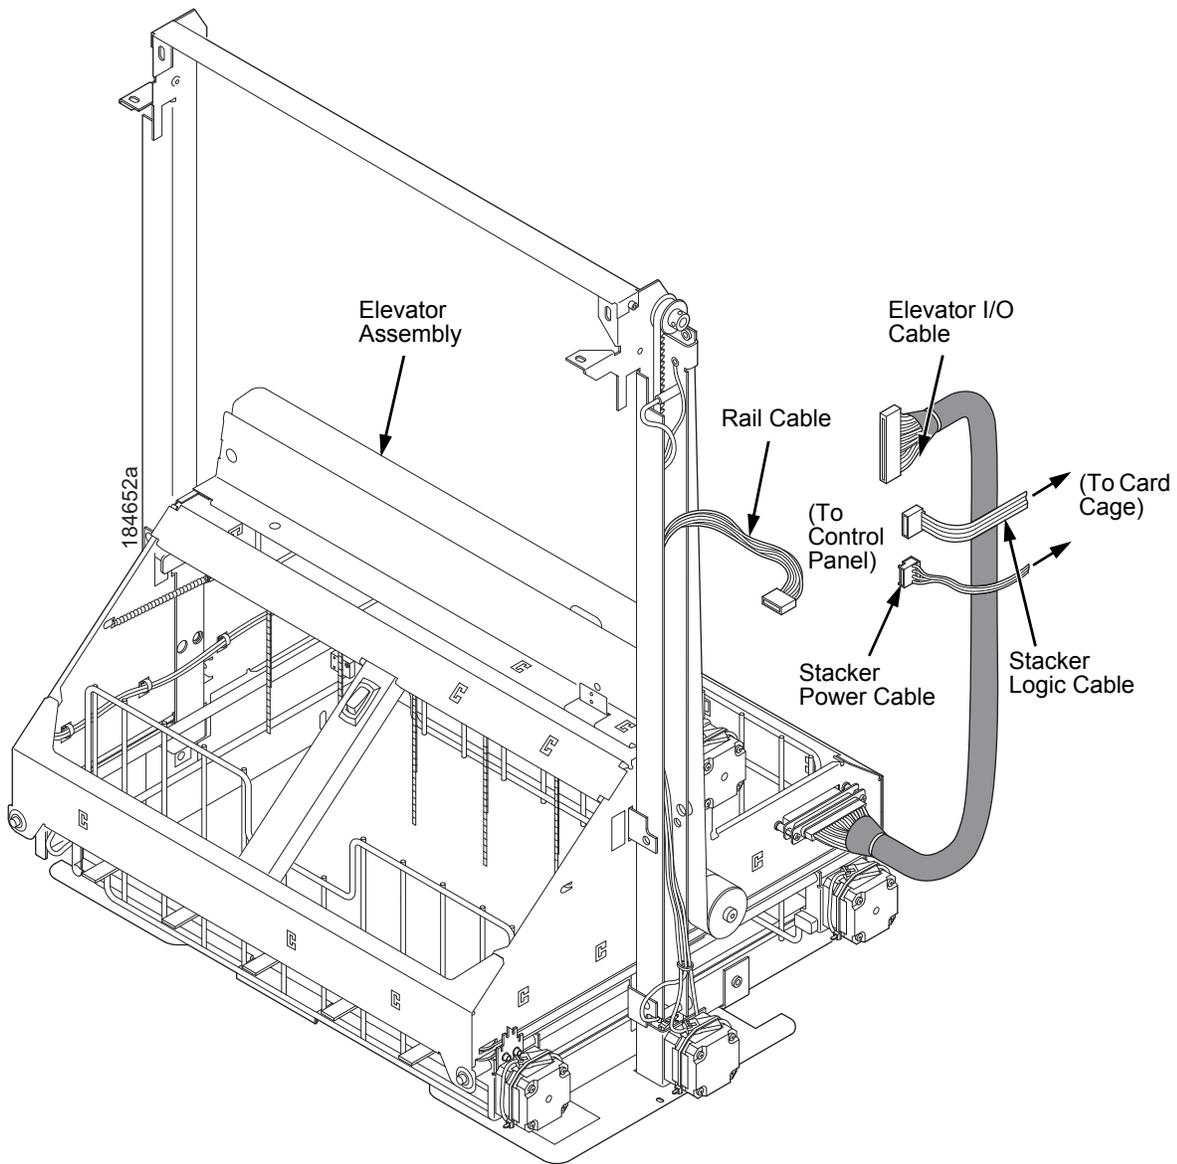

Figure 20. Stacker Cable Routing
20. Gather the stacker rail cable, elevator I/O cable, logic cable, and power cable. Route the cables outboard of the elevator assembly. (Figure 20.)